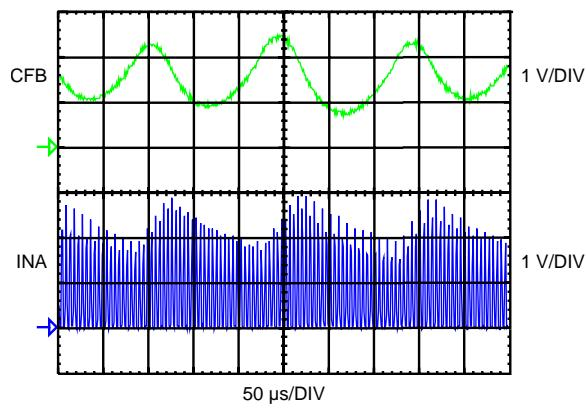
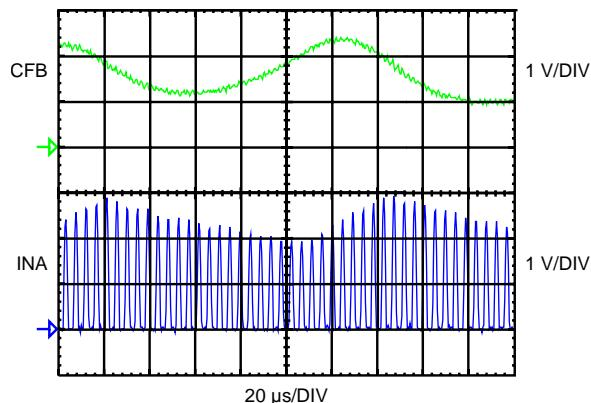

Figure 21. Determining the Value of CF
Figure 22. Determining the Value of CF
4. Step RP_MIN up one step at a time until the amplitude of the signal on the oscilloscope becomes variable as shown in Figure 21 and Figure 22. Increase RP_MIN by two, for example if the amplitude becomes variable at 17, set RP_MIN to 19.
5. Set the time scale of the oscilloscope so that many periods of the signal on the INA terminal can be seen. See Figure 21.
6. Set the CF capacitor value so that the AC portion of the waveform is about $1V_{PP}$ maximum. Decreasing the capacitor value will make the AC portion of the waveform larger. This signal scales linearly with the reciprocal of the filter capacitance. For example, if a 100pF filter capacitor is used and the signal observed on the CFB terminal has a peak-to-peak value of 200mV, the desired 1V peak-to-peak value is obtained using a $200mV / 1V \times 100pF = 20pF$ filter capacitor. Figure 21 shows the waveforms on CFB and INA and Figure 22 shows the waveforms using a zoomed in horizontal scale. Note that the waveforms on CFB and INA are not a constant amplitude. The waveform on CFB should be adjusted so that the maximum value is $1V_{PP}$.